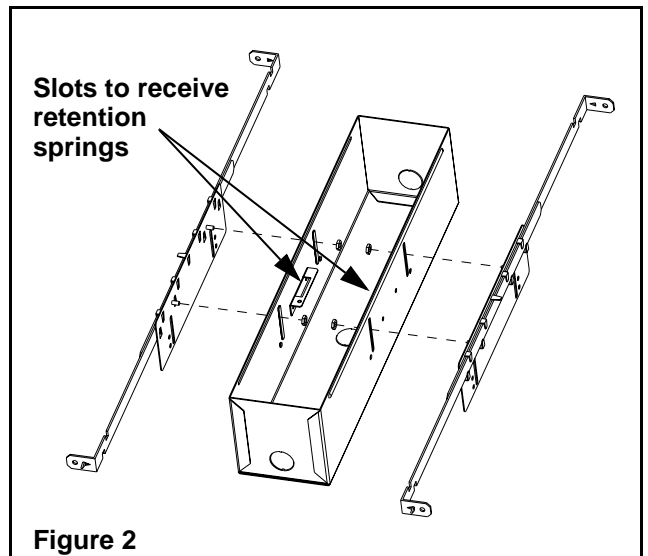
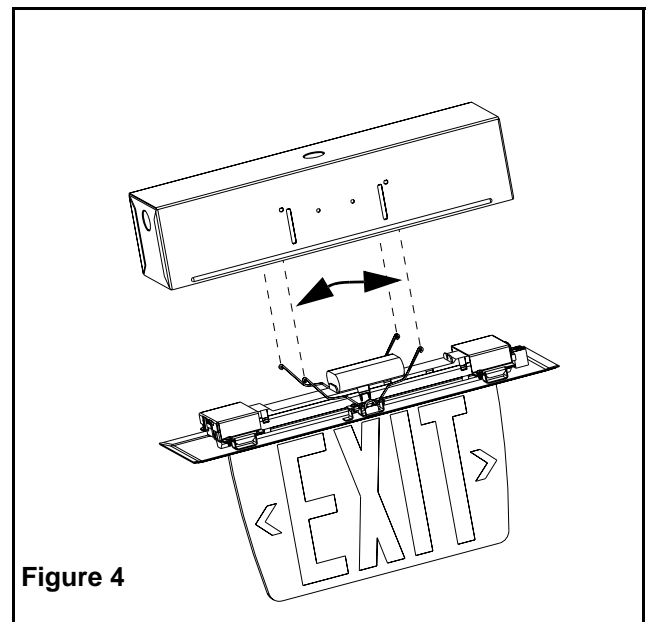

Figure 2
Figure 4
2. Assemble the bar hangers (3) to the adjustment brackets (2) and the adjustment brackets to the back box (see figure 2). Install the bar hangers in the adjustment brackets. Mount the back box so that it is flush with the ceiling surface.
7. Compress the retention springs (Figures 4) and pass them through the slots on the back box (1) (see figure 2) and push the trim plate assembly into the back box. Align to be flush with the back box or with the ceiling.